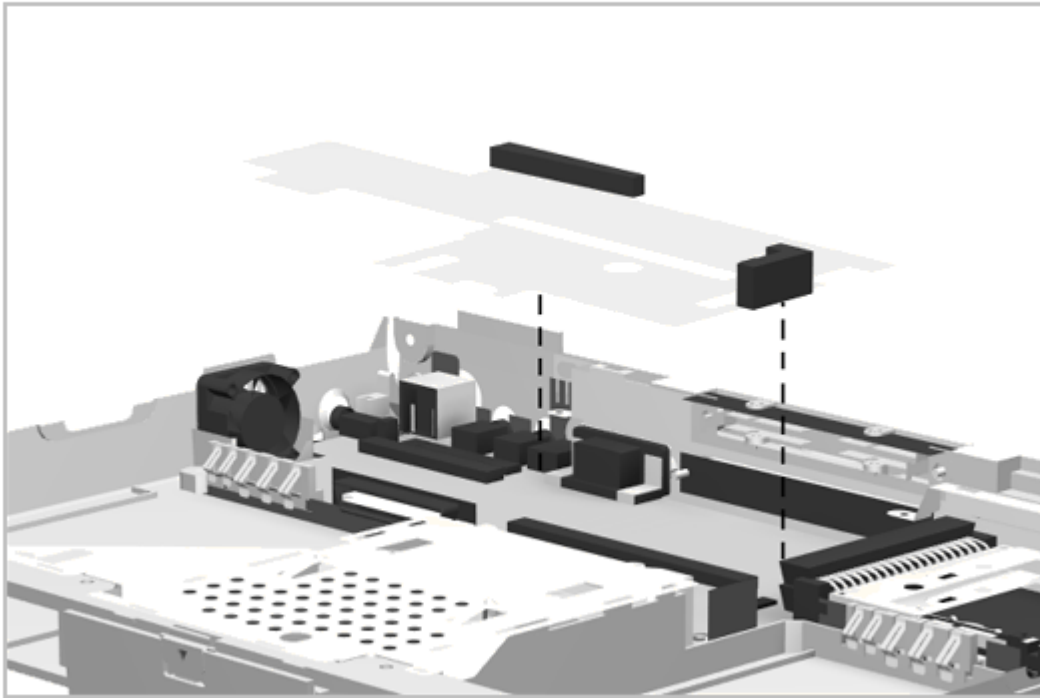

Figure 5-56. Removing the System Board Insulator
5. Remove the insulator laying on top of the system board if it is damaged (Figure 5-56). It is not necessary to remove the insulator to remove the system board but it is an opportune time to inspect and replace the insulator.